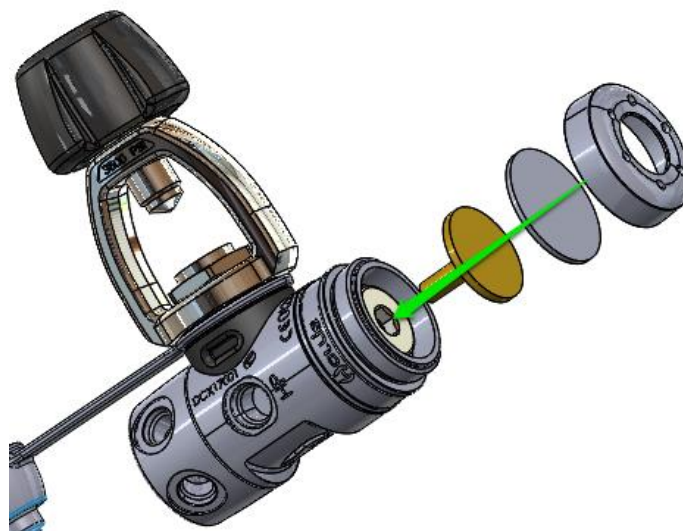

Fig.44
3. Place the environmental diaphragm 6891 flat inside the Environmental end cap 8159.8. Install the Environmental end cap 7089.8, threading it clockwise by hand until fully seated, onto the end cap 8150.8. DO NOT use any tools to tighten. (Fig. 44).